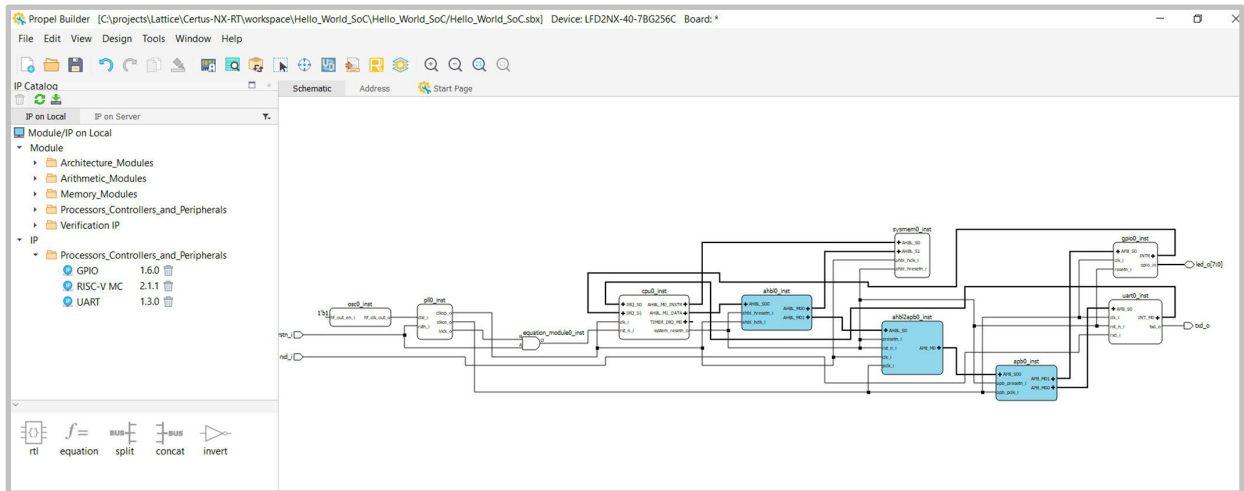

Figure 8: Design View of SoC Design
- Design View** shows all the components for creating the template SoC design, see **Figure 8**.